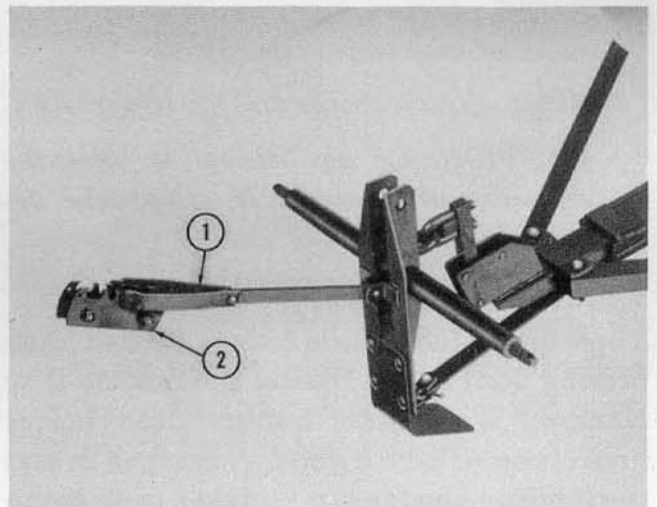

Figure 15
Gang Angle: The angle of the disc gangs is controlled by the Ford Hydraulic Touch Control. By lowering the hydraulic lift the gang angle is increased. By raising the hydraulic lift the gang angle is decreased. Adjustments are made by positioning the yoke (1) on the rack (2), Figure 15. By raising the yoke on